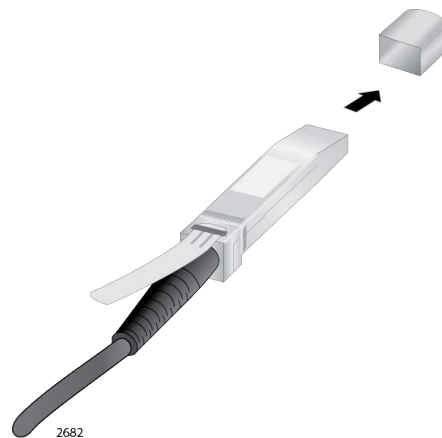

Figure 80. Removing the Dust Cover from the AT-SP10TW Cable
3. Remove the dust cap from a connector on the cable. Refer to Figure 80.